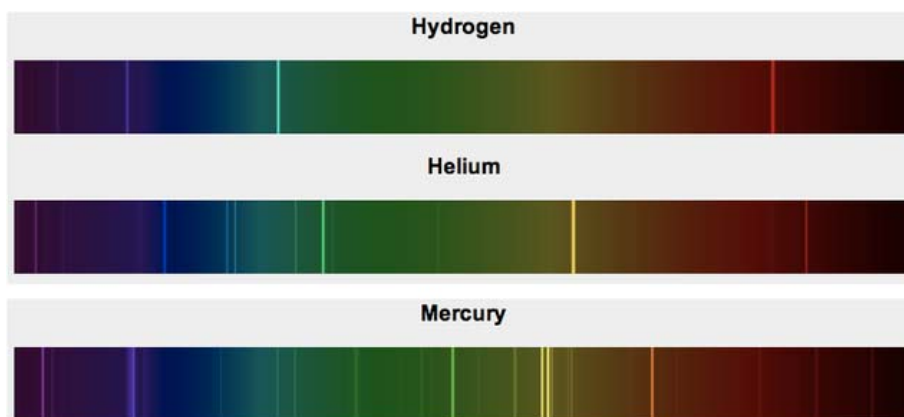

Figure 9.4: Emission spectra for hydrogen, helium and mercury.
The periodic table of the elements is also explained by the atomic model, where every element is uniquely identified by the number of protons in its nucleus. Quantum mechanics explains the energy states of the electrons in an atom. Every element in the periodic table has a distinct set of electron energy levels, so for a given element only photons of specific energies can be emitted. Therefore, when you are measuring the emission spectrum of an element, only certain wavelengths of light are allowed and the “pattern” that is produced is unique for that substance. Notice the differences in the emission spectra for hydrogen (H), helium (He) and mercury (Hg), that are shown in Fig. 9.4.